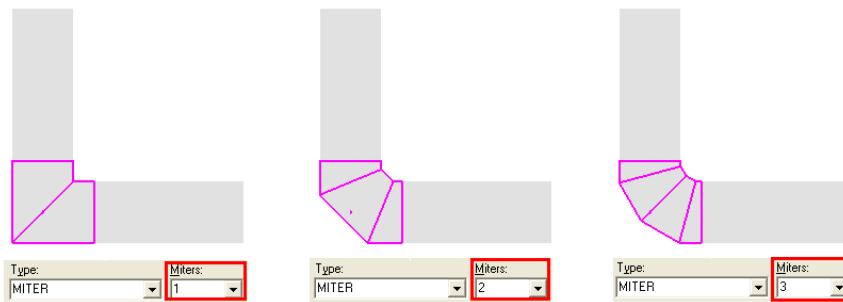

Figure 11: Miter Elbow can be (1-2-3) Configuration
- If the turn feature is a **Miter** type, then another box appears on the ribbon that allows you to choose the number of cut as shown in Figure 11.